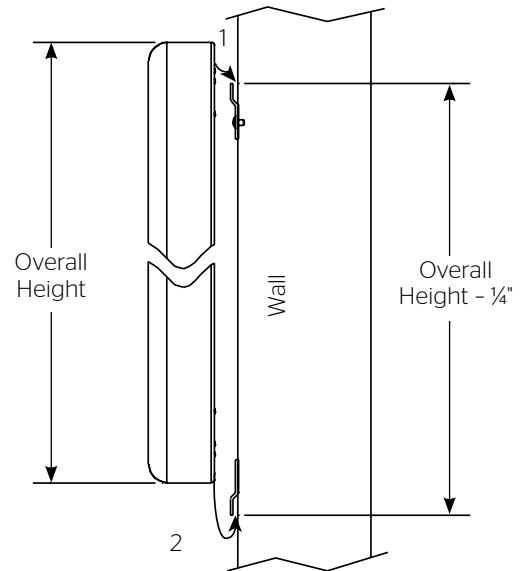

Figure 6
2. To install the lower wall bracket, you must measure the overall height of the screen frame and subtract $1/4"$. This is the dimension from the top of the upper wall bracket to the bottom of the lower wall bracket. See Figure 6.
3. Position the screen with the attached surface onto the top wall bracket as shown in Figure 6. Push down at the center of the bottom frame rail to hook onto the lower wall bracket.
1. Secure the large wall brackets to wall studs at the desired height. Make sure the brackets are level. The top of the frame will be 1/8" above the top of the large wall bracket when mounted. You will need at least 5/8" clearance above the bracket to hang the screen. Figures 6 and 7 show the proper orientation for the supplied wall brackets.
2. To install the lower large wall bracket, you must measure the overall height of the screen frame and subtract 1/4". This is the dimension from the top of the upper large wall bracket to the bottom of the lower large wall bracket. See Figure 6.
3. Position the screen with the attached surface onto the top large wall bracket as shown in Figure 6. Push down at the center of the bottom frame rail to hook onto the lower large wall bracket.